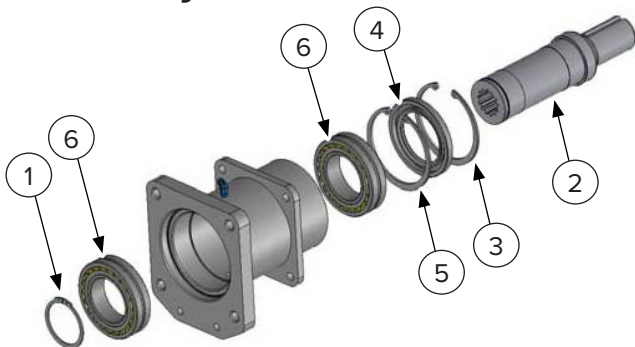

Figure 30
1. Remove the overhung load adapter shaft retaining ring [Figure 30, Item 1].